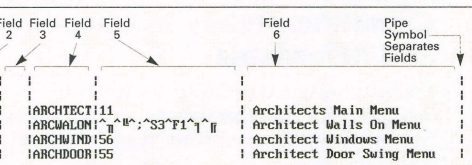

Figure 5
- Action Code, 2. an empty field not used yet, 3. Menu level string, 4. Icon filename (not picture in bar), 5. Command field, and, 6. Message string. (See Figure 5.)